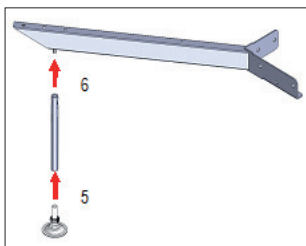
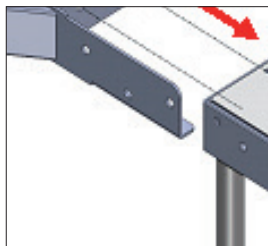
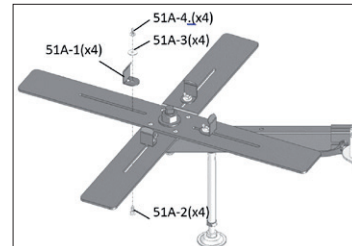

Fig. 2
Fig. 3
Fig. 5
- Fasten the supporting stand to the supporting arm(Fig2). Do not leave the supporting leg unsettled. (Fig 3 - Fig 5)°